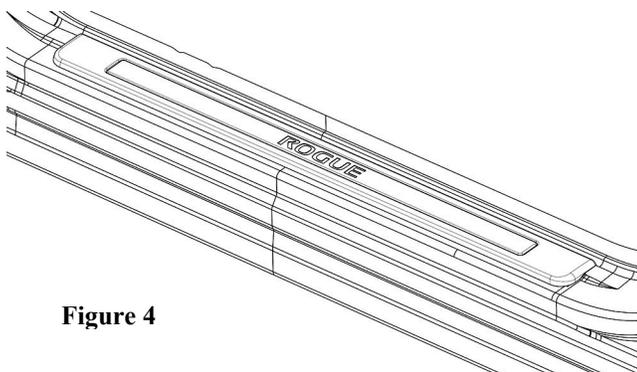

Figure 4
- b) Press down directly above each clip to engage. (Figure 4)